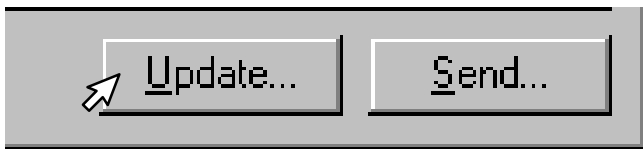

Fig. 13.58
8. Press the Update button (Fig. 13.58) on the Translate Database Strings screen.